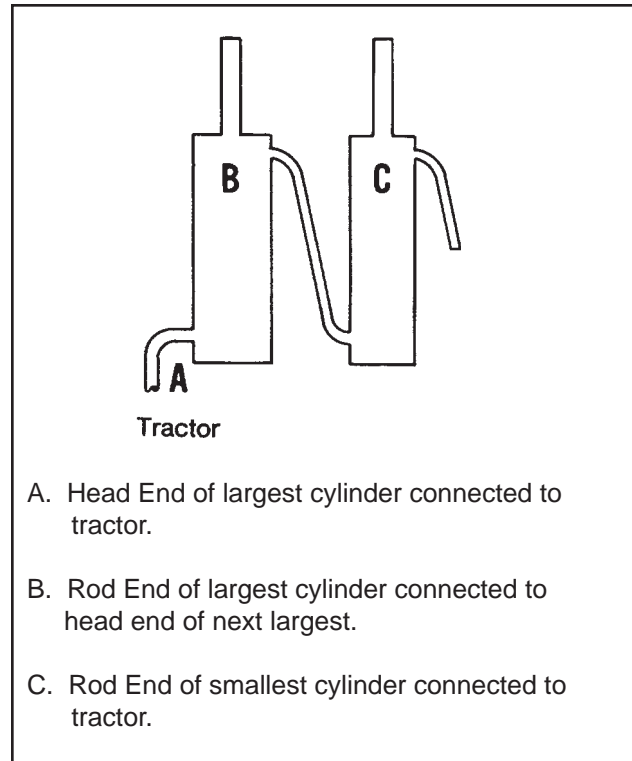

Figure 4
1. Check for proper cylinder size, location and sequence. (Figure 4)